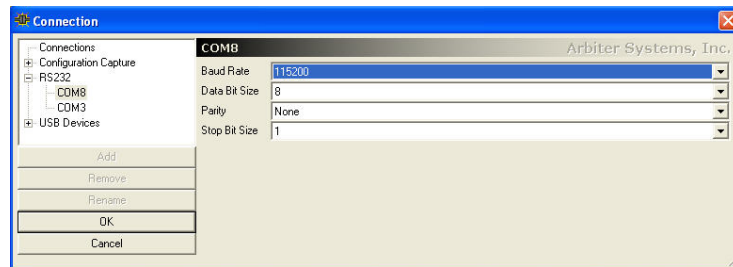

Figure 6.3: Connection Window, RS-232 Selected
To open a connection between the 933A and a computer (refer to Figure 6.3):
4. Select the COM port number you set up with the FTDI Driver and click the OK button below (see Figure 6.3 above).